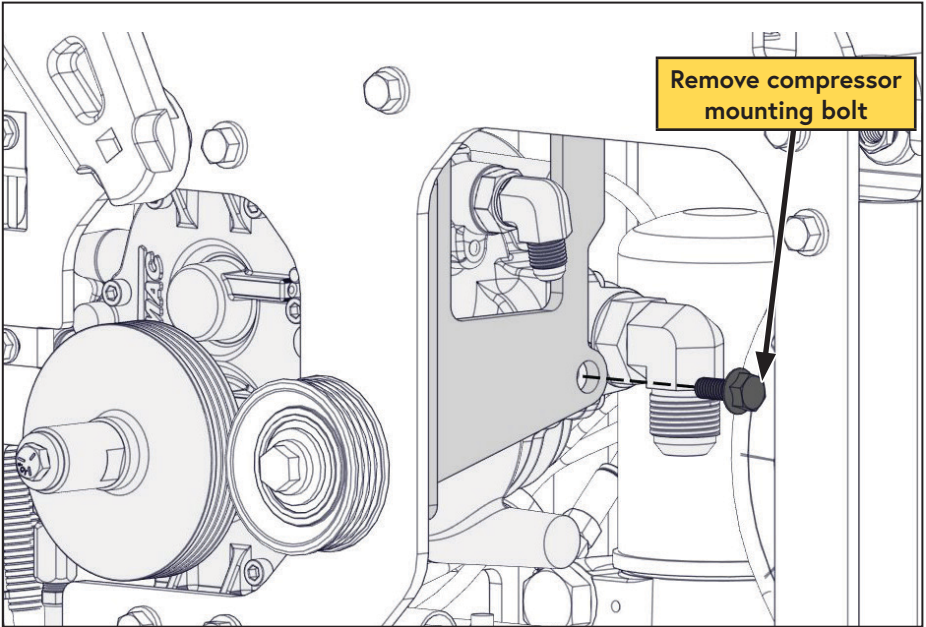

Figure 67 — Remove compressor
- ☐ Remove the bolt from the side of the compressor (Figure 67).